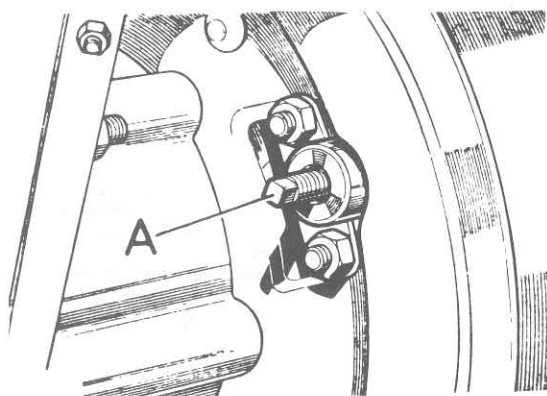

Fig. 9.8. Transmission brake adjuster 'A'
- 1 The transmission brake, located at the rear of the transfer box, has a single adjuster which protrudes from the front of the backplate (see Fig. 9.8).